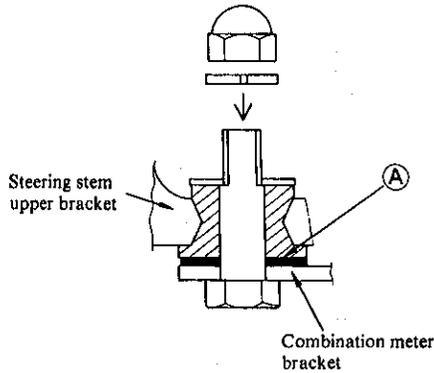

Fig. 13-20.
- Install the combination meter in the steering stem upper bracket as shown in Fig. 13-20.